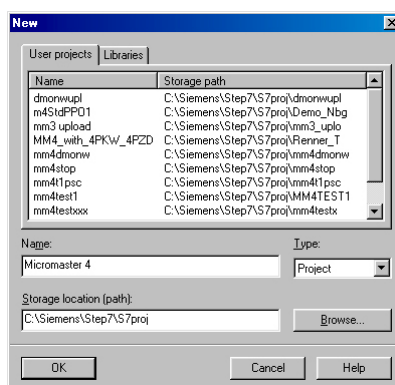

Figure 6-1 New Project Screen
2. From the File Menu, select New Project (see Figure 6-1).